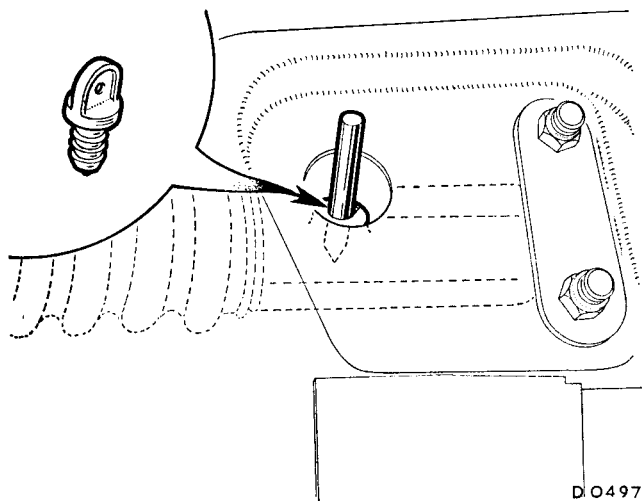

Fig. J.1
23. MK. II MODELS. Pull out the plastic plug from the rack casing and insert a locator pin, i.e. a  $\frac{1}{4}$  in. (6 mm.) diameter bolt approximately 2 in. (50 mm.) long into the hole. Centralize the rack until the locator pin fully engages in the rack shaft to lock the centralized assembly in position (see Fig. J.1).